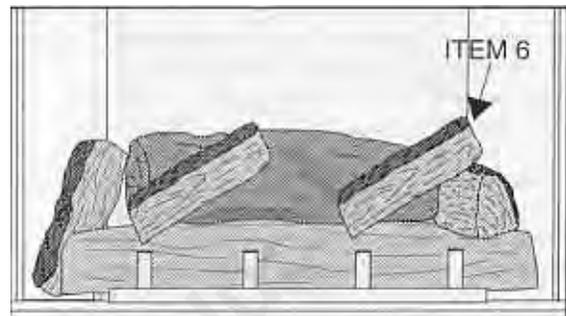

Figure 66
7. See Figure 66. Item 6 is installed next. Position this log with the "bark" toward the rear of the firebox. The left end of the log is placed in the notch on the right of the Front Log and on the right edge of Item 4 (already placed).